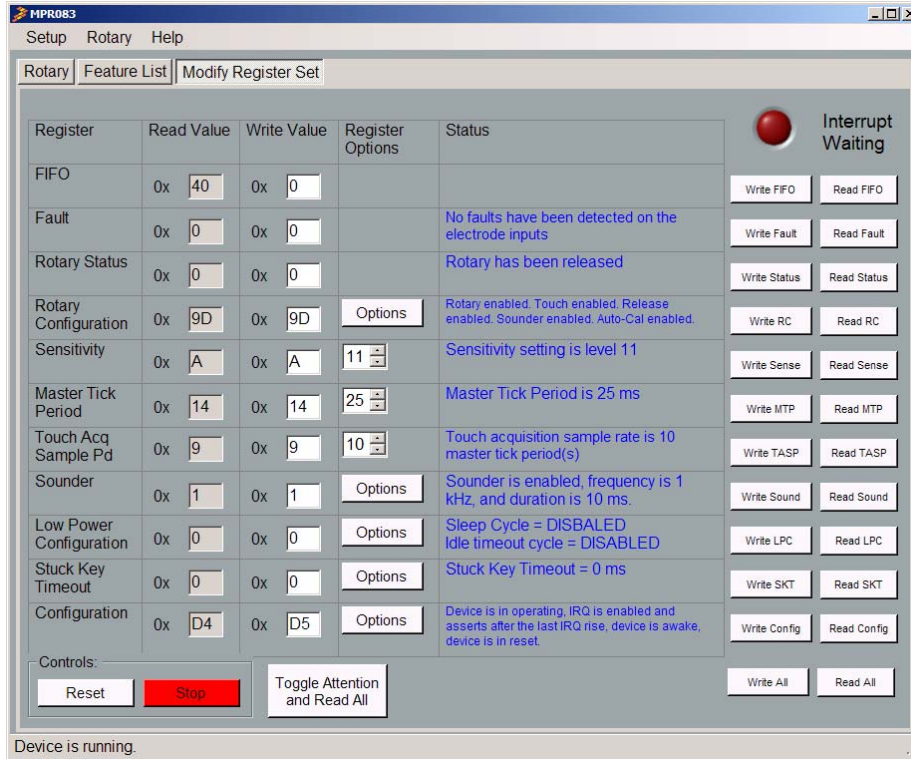

Figure 18. Modified register set after changing sampling speed to 250 ms and View Rotary
- 1) Select the “Touch Response Time: 1 s” button, the outline of the button and the text will turn red. When the sample rate is set to 1 s, the master tick period is set to 25ms and the touch acquisition register is set to 10 master tick periods. To run the application at this touch response rate select “Run”. Then select the “Rotary” tab, the Touch Response Time will change to 1000 ms. (Figure 18).
- 2) Go to tool bar at the top of the screen and select “Rotary” and select “View Rotary”. A form will appear with the Rotary on it (Figure 18).